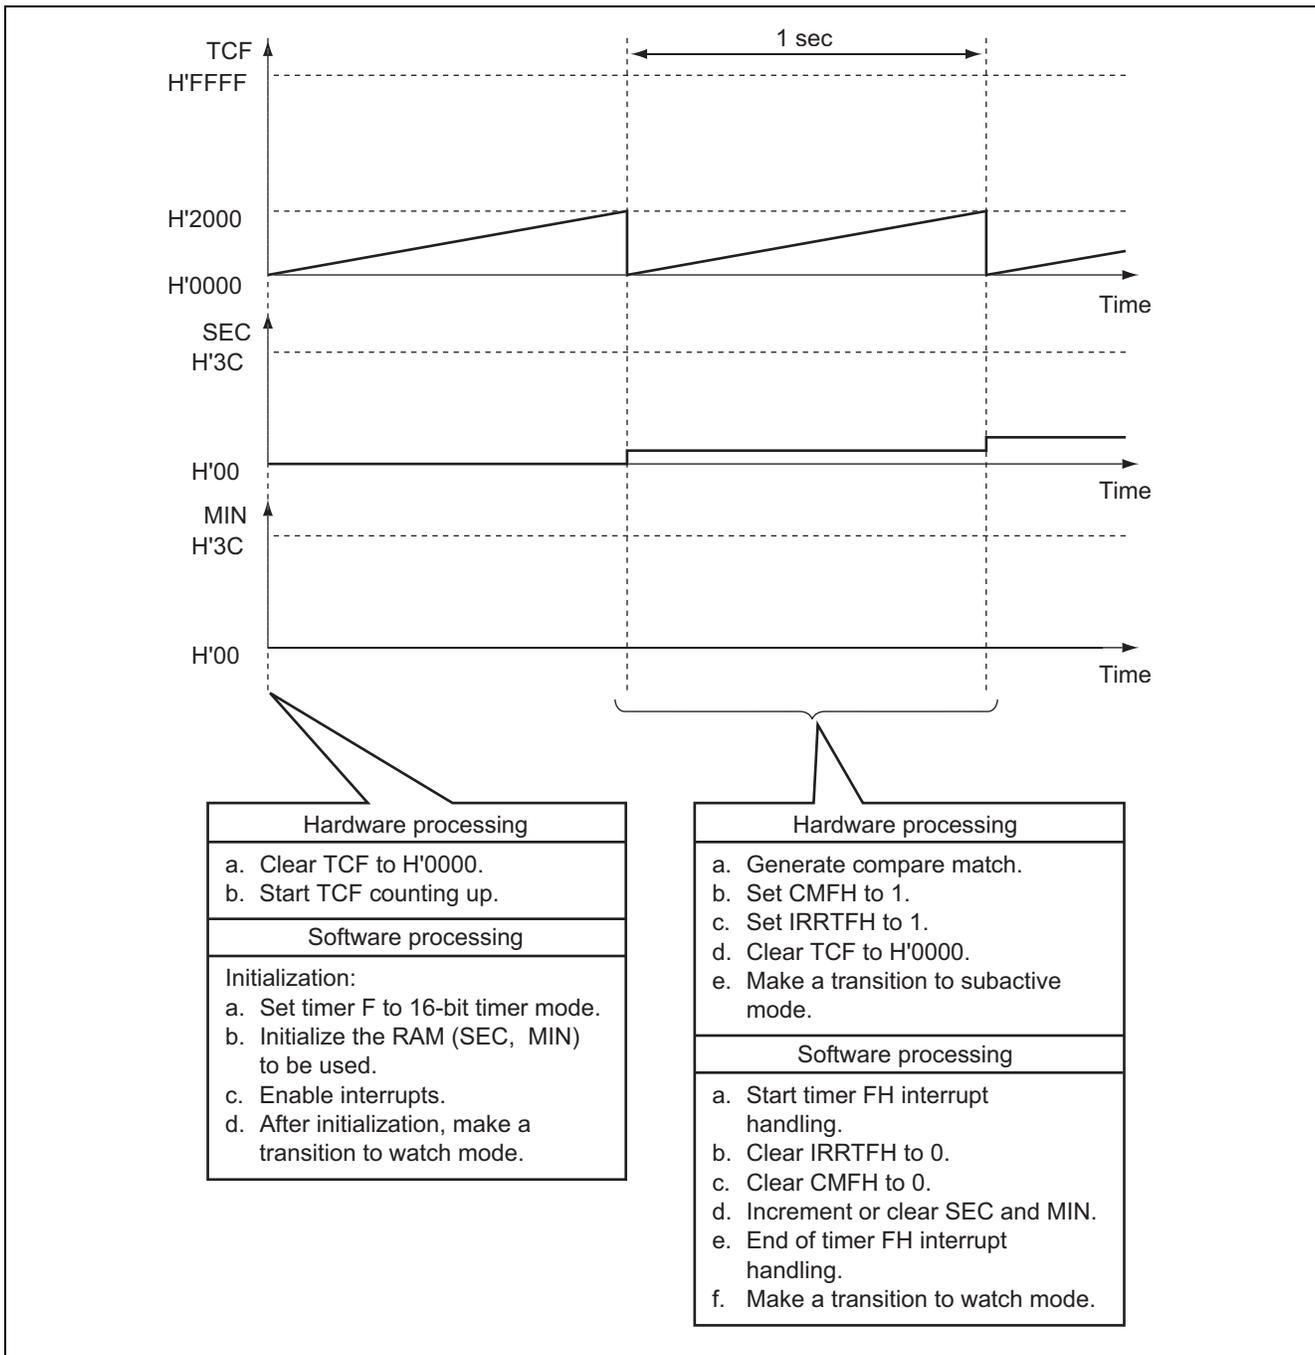

Figure 5 Timer F Operating Theory
3. Figure 5 shows the operating theory in this sample task.